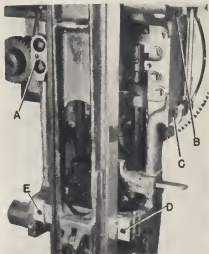

Fig. 1—Stripped machine ready for attachment of Corrector.
Note carefully the position of the lower left-hand elevator slide gib in machines where the right-hand gib is not doweled to the frame, in order not to disturb the adjustment of the elevator slide. Then remove galley, galley brackets, knife block, duplex rail recasting lever, slug stacking arm and pawl and entire knife wiper mechanism, including block and roller on elevator slide where used. Clean gibs and all attachment surfaces indicated by arrows (A), (B), (C), (D), (E). Fig. 1.
Note thickness of the gibs. On Linotypes and some models of Intertypes, the lower gibs are $\frac{3}{8}$ in. thick. In other Intertypes the gibs are $\frac{1}{2}$ in. thick. For use with $\frac{3}{8}$ in. gibs two shims are furnished with each Corrector. Hang the right-hand shim (if required) on the right-hand gib in position over the screw hole at point (D) as shown in Fig. 1. Lift Corrector into position, inserting one of the $\frac{1}{2}$ in. bolts through the frame and into threaded hole in vise at point (C), screwing in part way with the fingers to steady the Corrector while other screws are being inserted. Insert screw in point (A). Insert screw at point (D). Then put gib (and shim if required) in position at point (E) and insert screw.